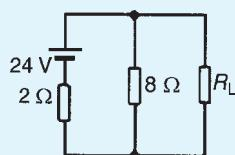

Figure 13.87
- Determine the value of the load resistance  $R_L$  shown in Fig. 13.87 that gives maximum power dissipation and find the value of the power. [ $R_L = 1.6\Omega$ ,  $P = 57.6\text{ W}$ ]